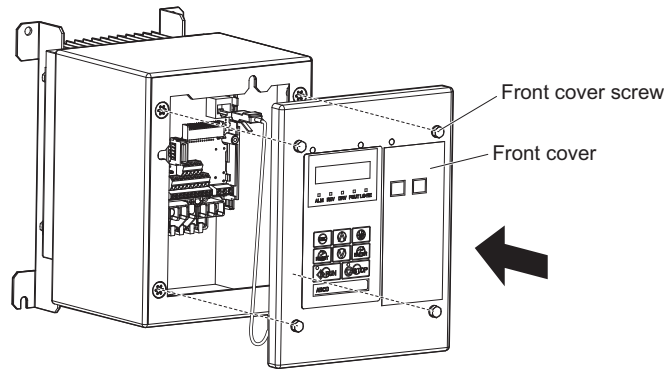

Figure 30 Attach the Front Cover
29. Reattach the front cover of the drive using four screws (see Figure 30). Refer to Table 9 on page 25 for tightening torque specifications.